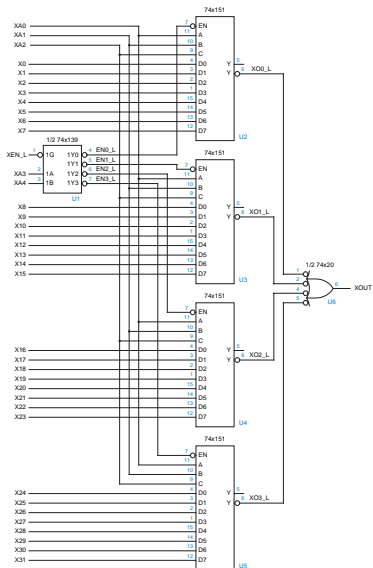

Figure 28: Combining 74x151s to make a 32-to-1 multiplexer.
- The circuit is identical to Fig. 28, except that output NAND gate is eliminated